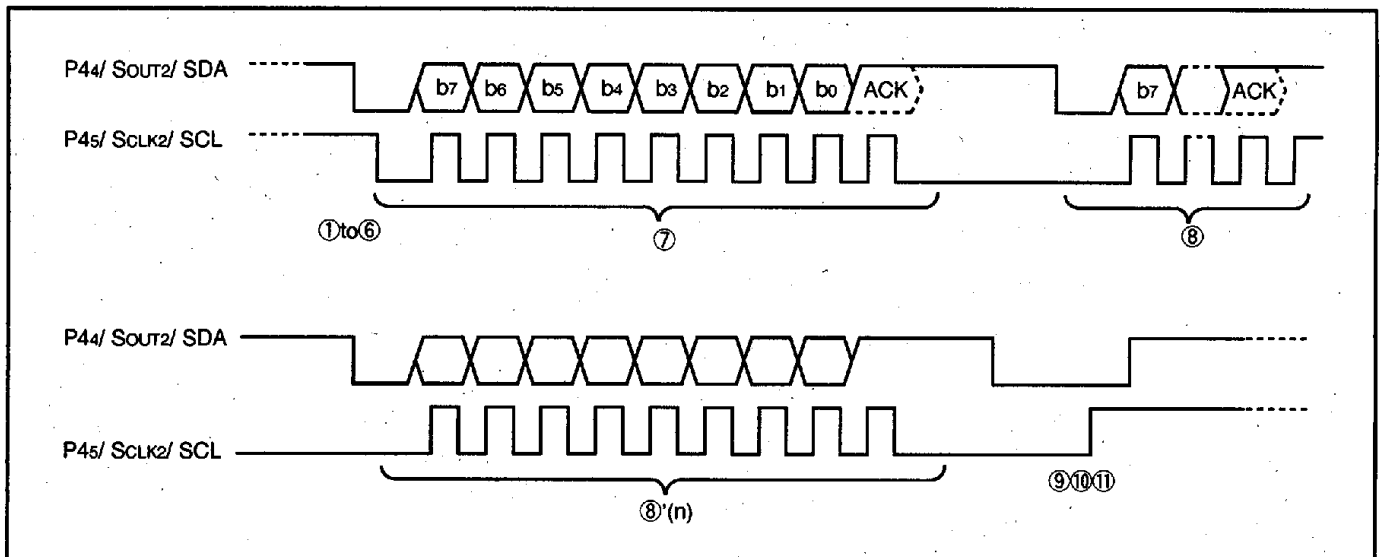

Fig. 16. Timing at master transmission
- ⑧ To transmit data successively, write data to be sent to the special serial I/O register, and enable an interrupt again. By repeating this procedure, unlimited number of bytes can be transmitted.
- ⑨ To terminate data transfer set bits 0 and 1 of the special mode register 2 to "0."
- ⑩ Set SCL (bit 1) to "1."
- ⑪ Then SDA (bit 0) to "1." This procedure transmits the stop signal. Figure 16 shows master transmission timing explained above.
Master reception is carried out in the interrupt processing routine after master transmission. For master transmission and interrupt occurrence thereafter, refer to the preceding section (1) Master transmission (the process until ⑦ in Figure 16).
- ⑫ In the interrupt routine, set master reception ACK provided (2616) in the special mode register 1 (address 00DA16).
- ⑬ Set dummy data "FF16" in the special serial I/O register (address 00D916). This sets data line SDA to "H" to receive data for 8 clocks. Then, transmit "L" to data line SDA for receiving ACK. In the ACK provided mode, the above ACK is automatically sent out.
- ⑭ Repeat the above receiving operation for a necessary number of times. Then return to the master transmission mode and transmit the stop signal by the same procedure for the master transmission (the process from ⑨ to ⑪ in Figure 16).